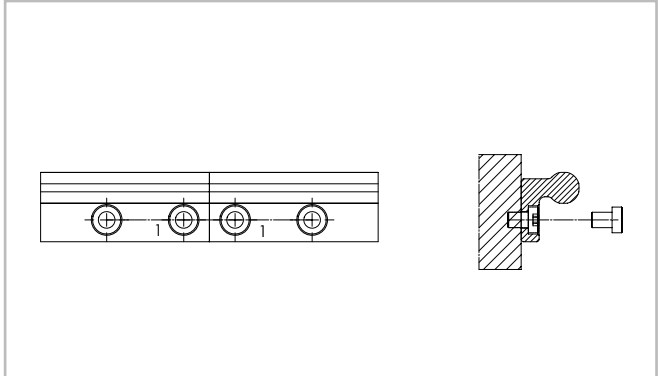

Fig. 28
- (1) Fix the individual rails on the mounting surface by tightening all screws except for each last one on the rail joint.
- (2) Install the end fixing screws without tightening them (see fig. 28).